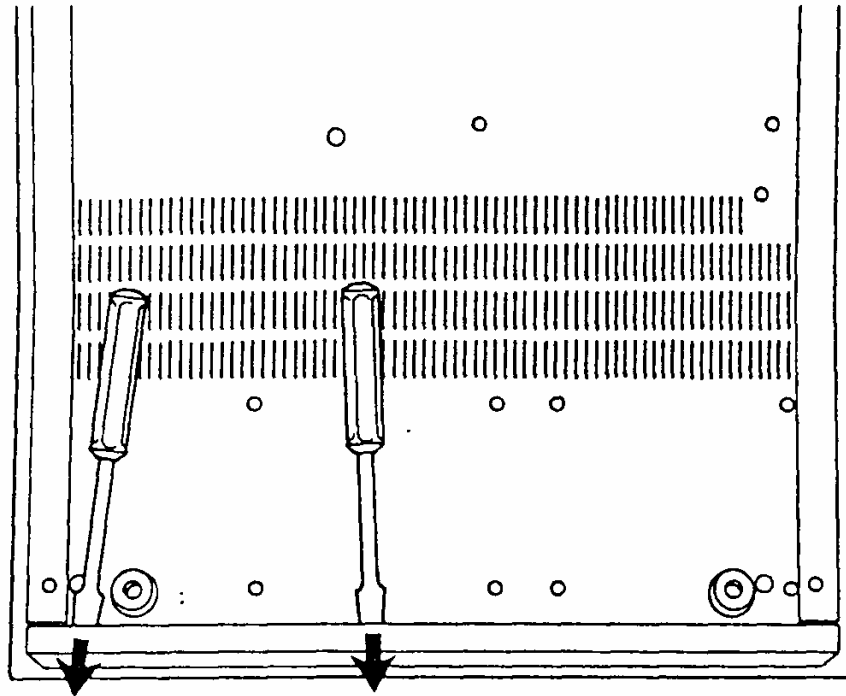

Figure 8: Rear plastic removal
- (1) Power down the unit for disassembly.
- (2) Disconnect the unit from the mains.
- (3) Remove the unit from the stack.
- (4) Remove the rear plastic moulding (Item19) by levering the top up and back. The plastic mouldings are fixed to the FileStore box by locating lugs on the inner top and bottom faces. These lugs are about 10mm wide by 2mm thick.
- With a second flat screwdriver repeat this action at the centre. See Fig 8.
- (5) Remove the top cover (Item 14). This is fixed by six Posidriv screws (Item 61) through the base of the unit.